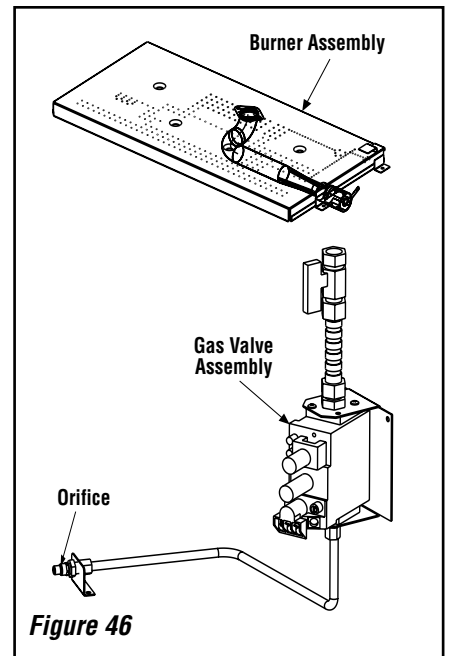

Figure 46
Step 4. Refer to *Figure 46*. Remove the burner assembly with attached venturi tube.
Step 7. (Refer to **Figure 46** on **Page 29** and **Figure 49**)